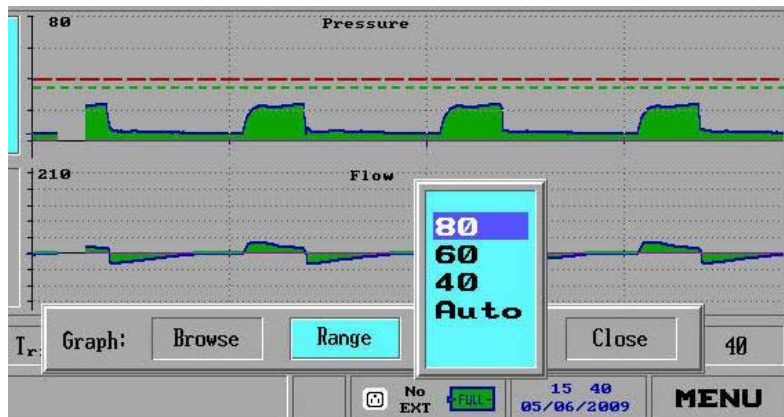

Figure 100: Pressure Ranges
3. From the **Graph Choice** bar select **Range** with the Control Knob, and then press the Control Knob. A pop-up window appears which displays optional **Ranges** (Figure 100).